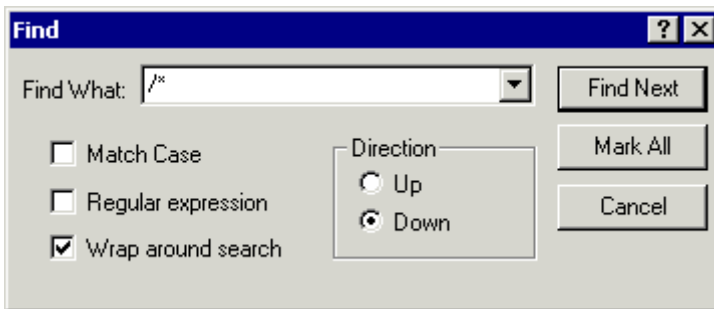

Figure 2-18. Find Dialog Box: Locating Occurrences of `/*`
2. From the **Edit** menu, choose **Find** to open the **Find** dialog box, shown in Figure 2-18.